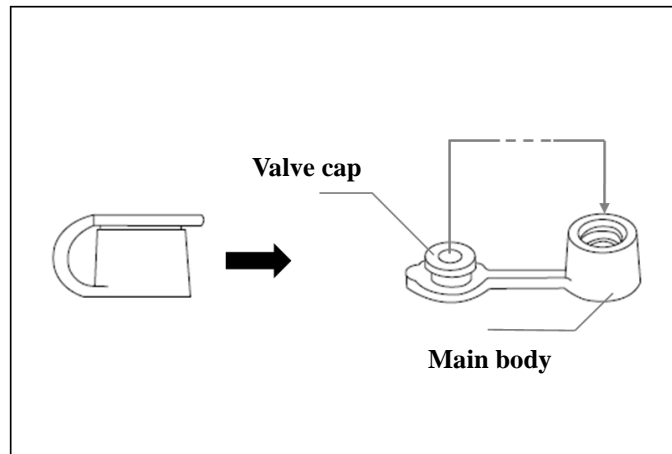

Figure 7.21
3. Before immersing the detergent solution, remove the biopsy valve cap from the main body (as shown in Figure 7.21).